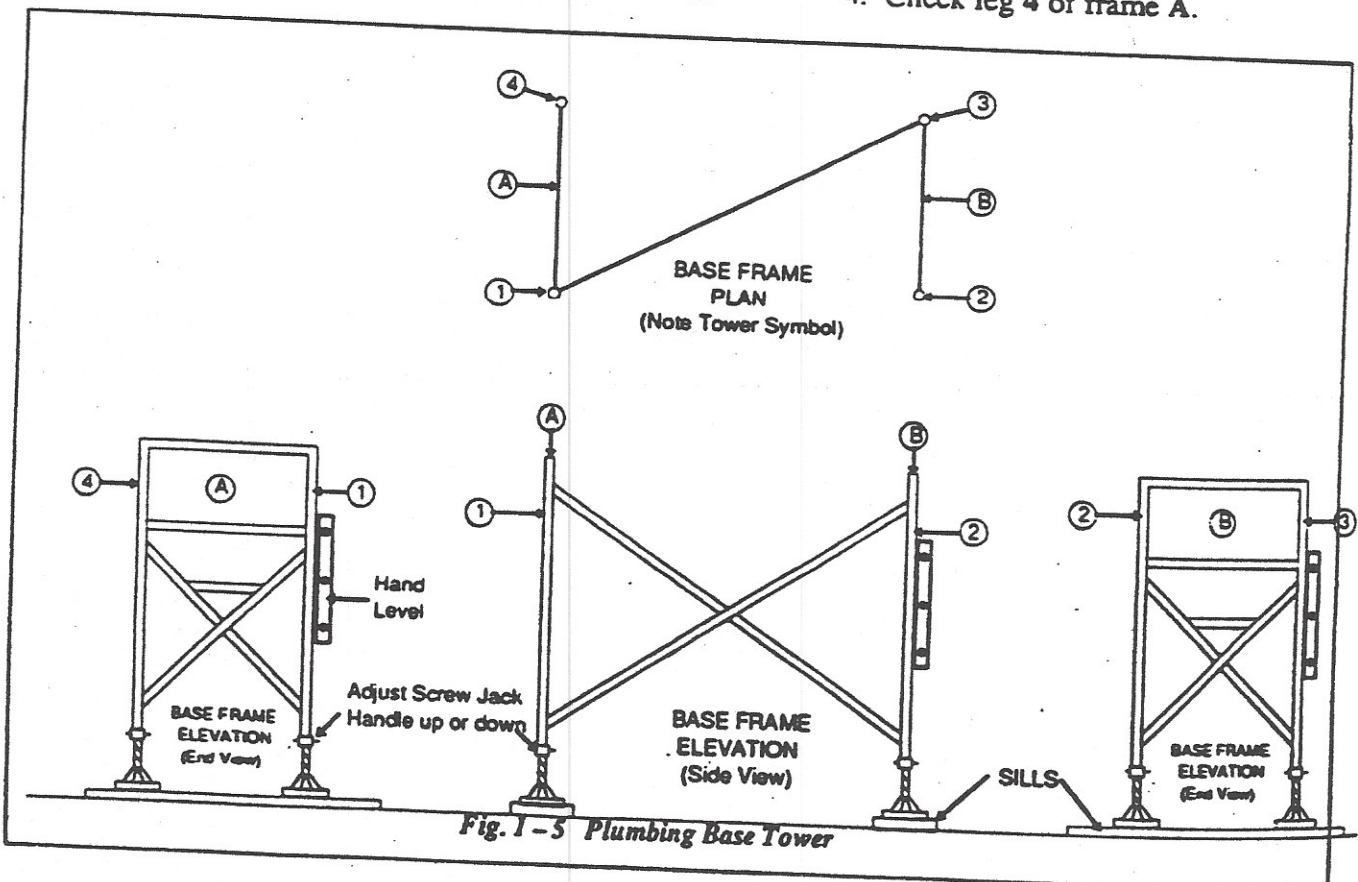

Fig. 1-5 Plumbing Base Tower
5. Plumb tower with hand level -- 1 man operation. (See Fig. 1-5)